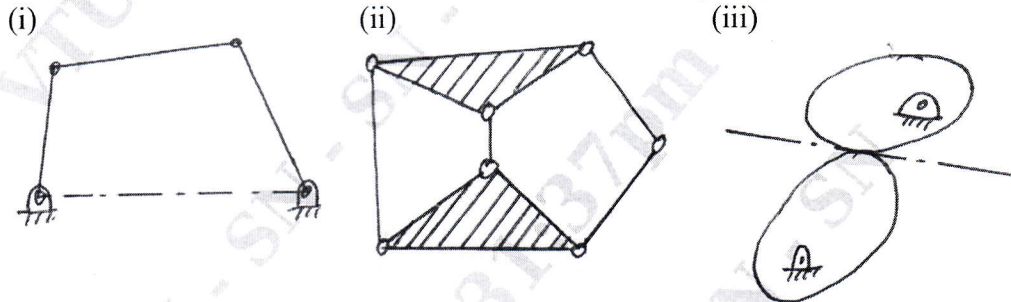

Fig.Q2(b)
- b. Find the degrees of freedom for the mechanisms shown in Fig.Q2(b).